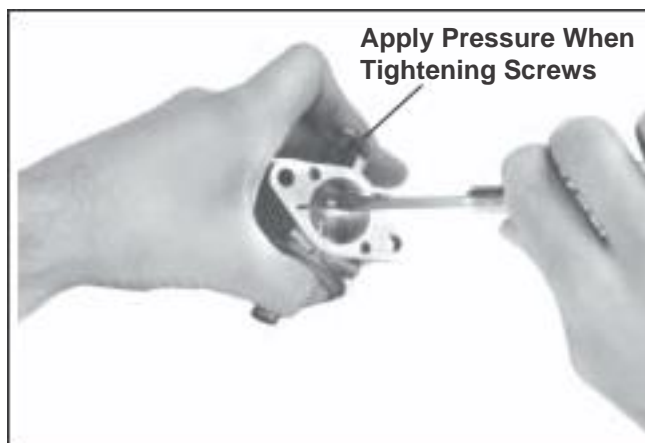

Figure 5-12. Installing the Throttle Lever/Shaft.
4. Apply finger pressure to the throttle lever/shaft to keep it firmly seated against the pivot in the carburetor body. Rotate the throttle shaft until the throttle plate closes the bore around its entire perimeter; then tighten the screws. See Figure 5-12.